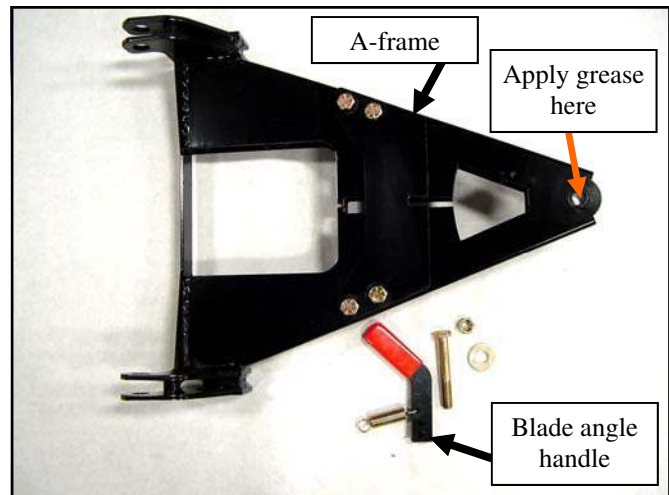

Fig. 7.1—A-Frame and Hardware
- 7.1 Per fig 7.1, locate the A-frame, blade angle handle, handle spring, one 1/2-20 x 3.5" hex head bolt, one 1/2-20 conical locking hex nut, and one 1/2" washer. Apply all-season grease to the top and bottom surface of the A-frame around and in the 1/2" bolt hole. Grease should extend about an inch away from the center of the hole.